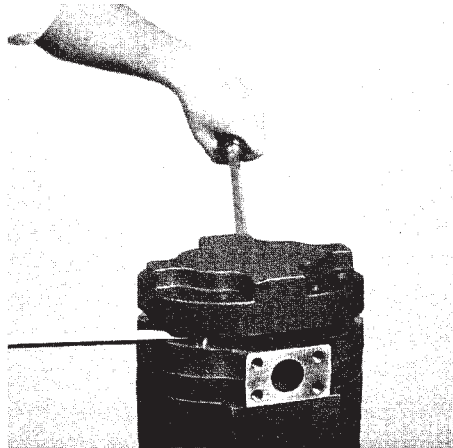

FIGURE 2
3. Lift off rear cover. If necessary pry loose, but be careful not to damage machined surfaces. (Figure 2)